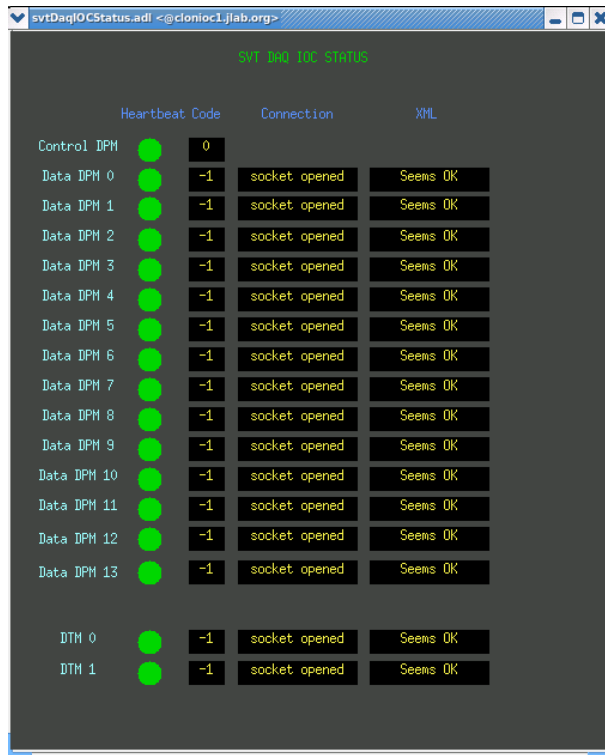

Figure 2.2: DAQ IOC Status GUI.
- **DAQ IOC Status** in Fig. 2.2.